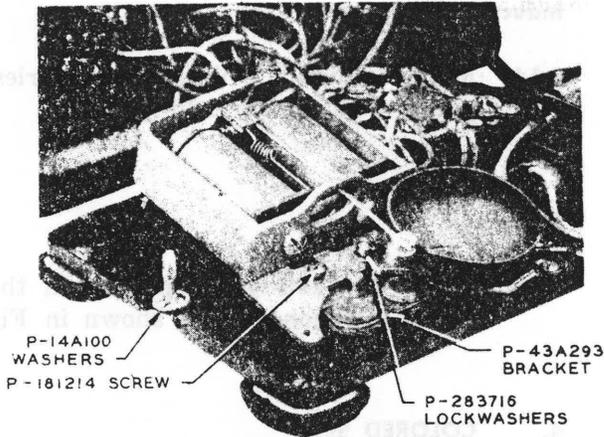
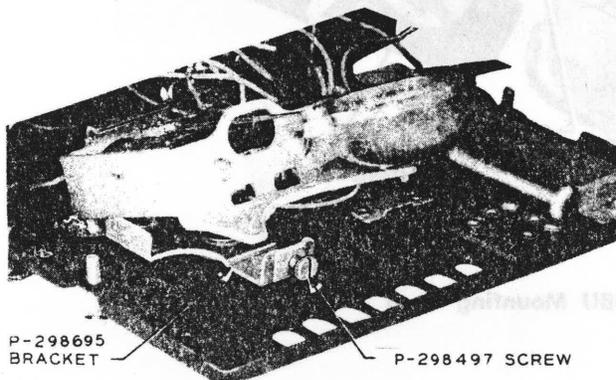

Fig. 14 - Ringer Assembly
Fig. 16 - Ringer Assembly Using P-298695 Bracket
3.07 On desk sets the terminals of the 6-type dial may obstruct the ringer clapper rod when the ringer is mounted on a triangular mounting bracket. To provide necessary clearance, place two captive mounting washers on each of the mounting screws which hold the upper housing to the baseplate of telephone set. (See Fig. 14.)
3.09 Place ringer as shown in Fig. 14 when using the P-43A293 bracket. Place ringer as shown in Fig. 16 when using the P-298695 bracket. The left ringer gong is omitted from Fig. 16 for clarity.